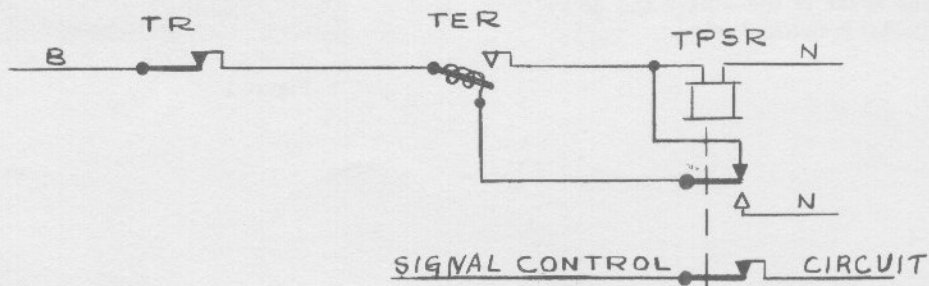

Figure 3
up. If the track circuits pick up with a train on the circuit it could be possible for opposing signals to display a proceed aspect onto the occupied track section. Since the shunt will normally be re-established within seconds, this condition may be minimized by use of a second relay (TPSR-Track Repeater Stick Relay), controlled by a thermal relay. The TPSR contacts are inserted in the control circuits. In the example circuit Figure 3, when the track relay drops, it drops the TPSR. Should the TR pick up with a train occupying the track the TPSR will stay down until the thermal heats (after 5 or 10 seconds have elapsed); the TPSR will not pick up, and the vital circuits will have been protected during the loss of shunt duration.
**Detailed Operation:** One type of thermal relay circuit is shown in Figure 3. It has a fixed time delay which is from the time between the electric current being applied and the closing of its one stationary contact. The